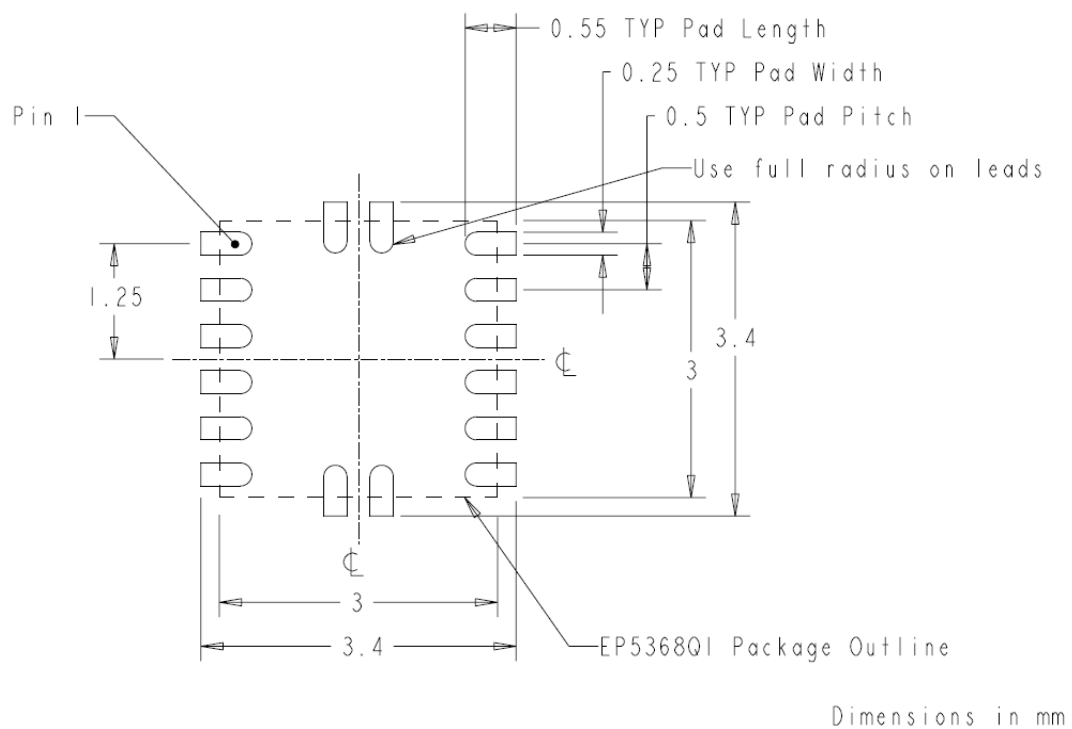

**Figure 7: Top PCB Layer Critical Components and Copper for Minimum Footprint**
Figure 7 shows critical components and layer 1 traces of a recommended minimum footprint EP5368QI layout. ENABLE configurations and other small signal pins need to be connected and routed according to specific customer application. Please see the Gerber files on the Altera website [www.altera.com/enpirion](http://www.altera.com/enpirion) for exact dimensions and other layers. Please refer to Figure 7 while reading the layout recommendations in this section.
**Recommendation 2:** Input and output grounds are separated until they connect at the PGND pins. The separation shown on Figure 7 between the input and output GND circuits helps minimize noise coupling between the converter input and output switching loops.
**Recommendation 4:** Multiple small vias should be used to connect the ground traces under the device to the system ground plane on another layer for heat dissipation. The drill diameter of the vias should be 0.33mm, and the vias must have at least 1 oz. copper plating on the inside wall, making the finished hole size around 0.20-0.26mm. Do not use thermal reliefs or spokes to connect the vias to the ground plane. It is preferred to put these vias under the capacitors along the edge of the GND copper closest to the +V copper. Please see Figure 7. These vias connect the input/output filter capacitors to the GND plane and help reduce parasitic inductances in the input and output current loops. If the vias cannot be placed under  $C_{IN}$  and  $C_{OUT}$ , then put them just outside the capacitors along the GND. Do not use thermal reliefs or spokes to connect these vias to the ground plane.